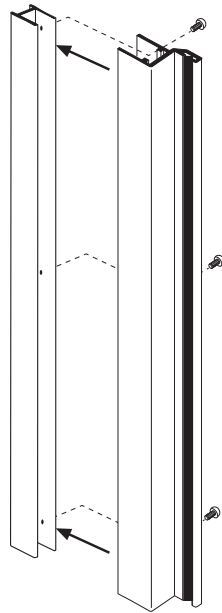

Figure 4
- B. From outside the shower with the Magnetic Jamb Seal (#3) facing **OUT** towards you as you look into the shower, place the Slip Jamb Female (#3) over the Slip Jamb Male (#2) secured to the wall that the shower head is on. (See Figure 4).
- D. Standing inside the shower, use the 7/64" Drill Bit to drill a hole 6" down from the top of the Slip Jamb Female (#3) through both Slip Jamb. Drill another hole 6" up from the bottom and also one in the middle. Secure the Slip Jamb Female (#3) to the Slip Jamb Male (#2) with three #6 x 1/4" "B"-Point Screws (#13). (See Figure 4).